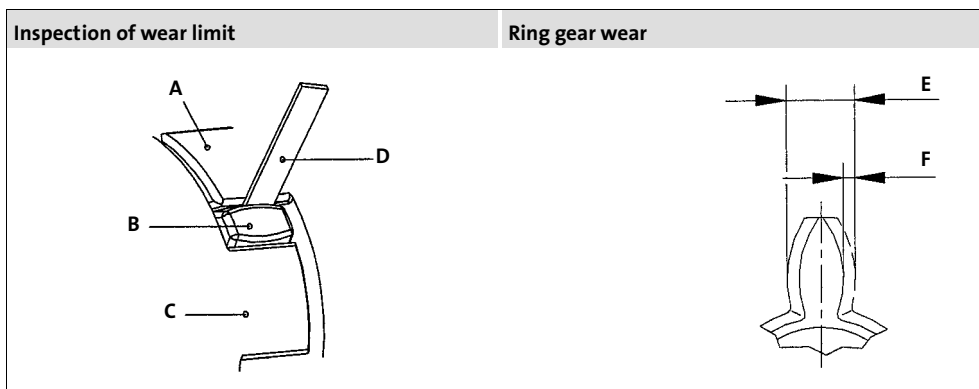

Fig. 7 Inspection: wear
1. Remove the screw plug (item 1) for the wear and backlash check.
2. Check the clearance between clutch hub and elastic ring gear with a feeler gauge (Fig. 7).
4. After performing the test, the opening (item 1) must be closed again with the screw plug.